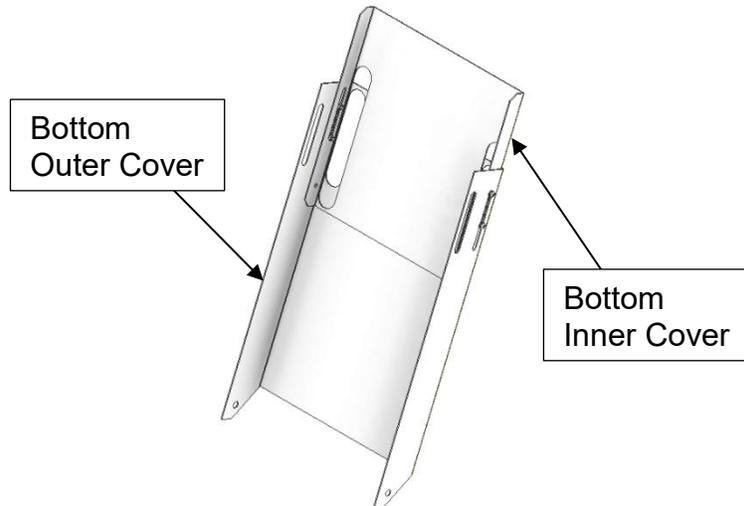

Figure 16
3. Attach the bottom inner and outer covers as shown in Figure 16 using the M4 screws. Leave these loose to allow the inner cover to slide until the full assembly is in place.